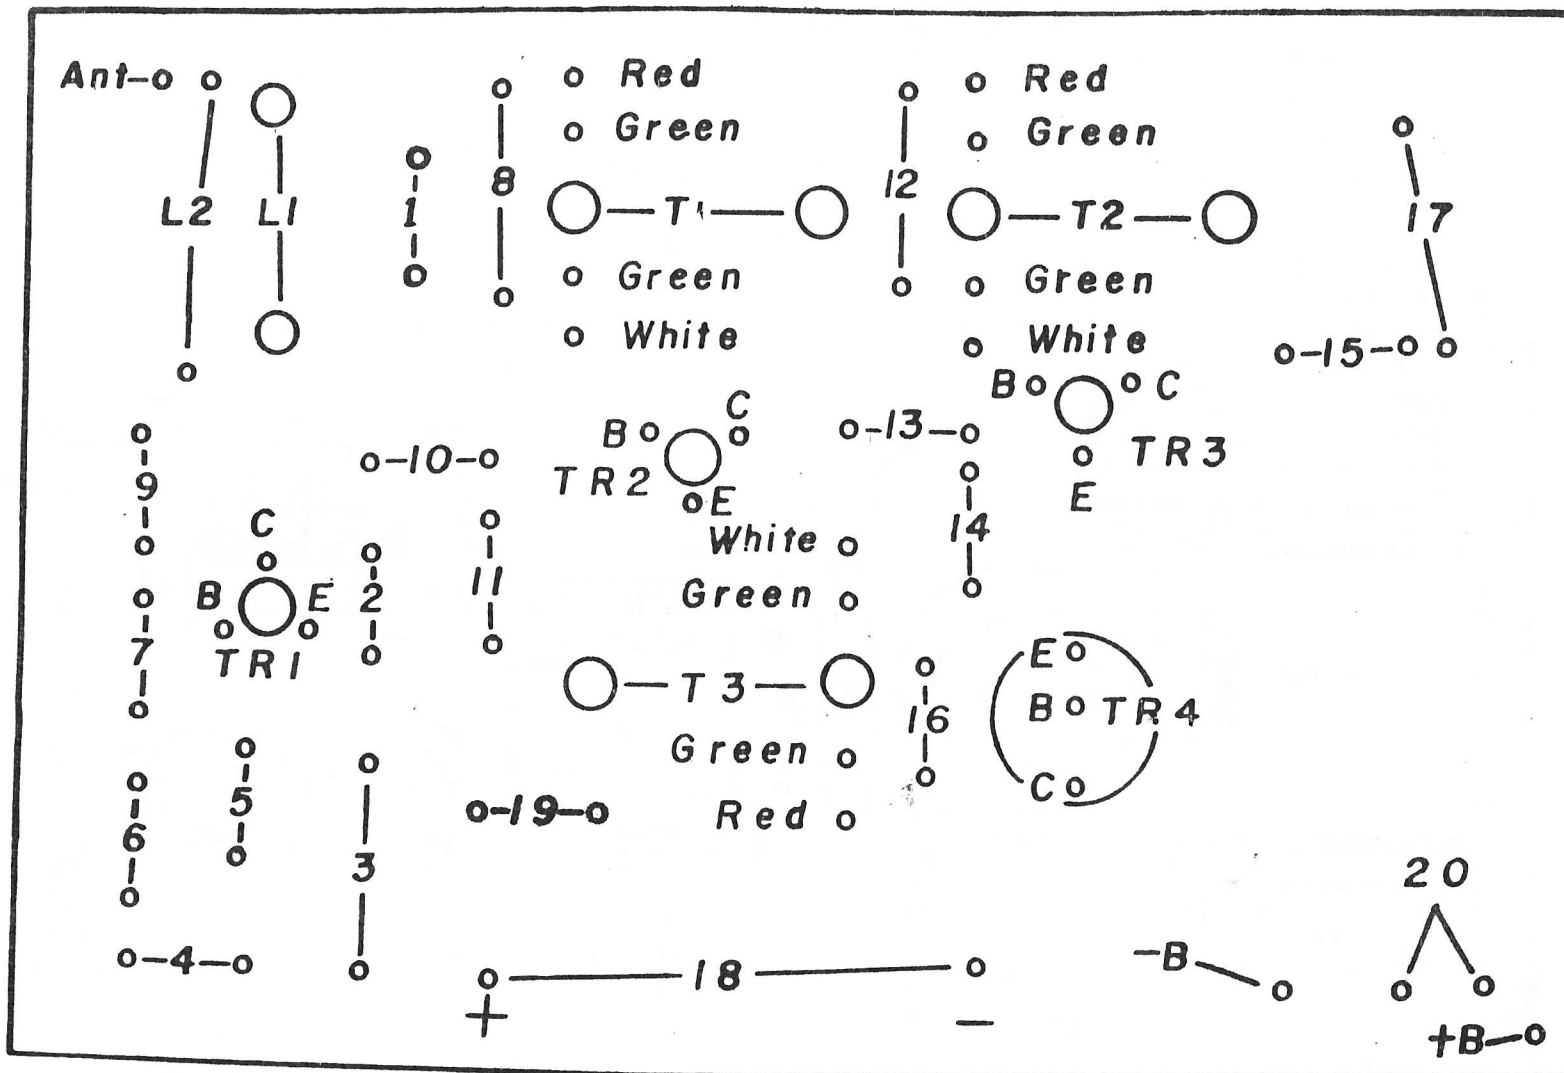

Fig. 1
All four transistors should be soldered into place before any other parts are installed on the base. This will allow room to hold the transistor leads with a long nose pliers as they are soldered onto the base. The transistor leads should be pushed through the holes far enough so that about $\frac{1}{4}$ inch of lead shows above the base. The leads should be clipped flush with the bottom of the base and the lead being soldered held with the long nose pliers at the base of the transistor to conduct the heat away from the transistor. This is a very important point and extreme care should be used when soldering the transistors onto the board. A small amount of heat can easily damage the transistors. Correct lead orientation is also important when wiring in the transistors. The lead locations are shown on both Figures 1 and 2 as well as on the base itself and should be followed closely. The collector lead (C) of TR1 (A01) is the lead adjacent to the red line on the side of the base of the transistor. The collector leads (C) of TR2 and TR3 (T0037) are the leads adjacent to the red line or solder dot on the side of the base. The collector lead (C) of TR4 (2N192) is identified by the larger spacing between it and the other two leads. (2N192EA)